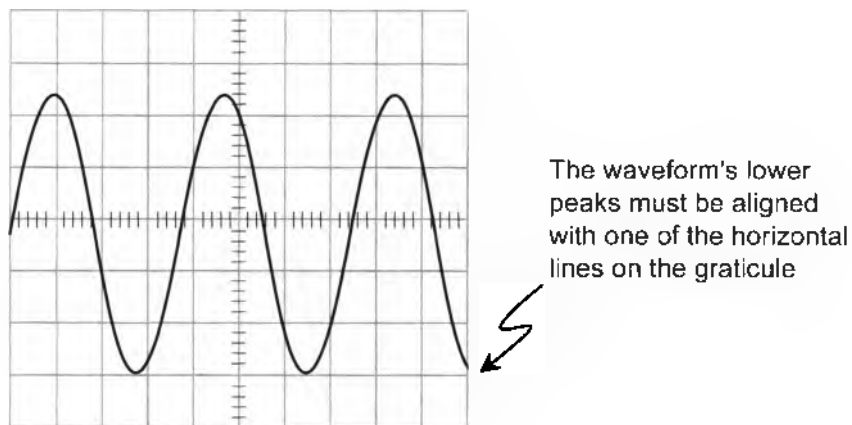

Figure 2
2. Adjust the *Vertical Position* control to align the waveform's lower peaks with one of the graticule's horizontal lines (see Figure 2).